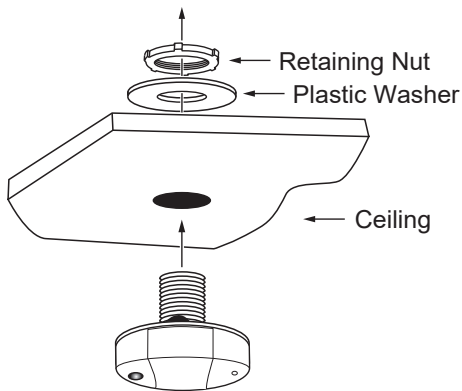

Figure 1. Ceiling tile mounting
1. The LS-102 is designed to be mounted in either of two ways. For suspended ceiling tile, a threaded nipple with a retaining nut is attached to the LS-102 (see Figure 1). For sheet rock or other solid surfaces, first remove the threaded nipple by squeezing it near the base of the LS-102 (see Figure 2). Then use the two screw holes located under the cover. Screws are not provided. Select #6 pan head screws appropriate for the mounting surface, typically about 7/8" long.